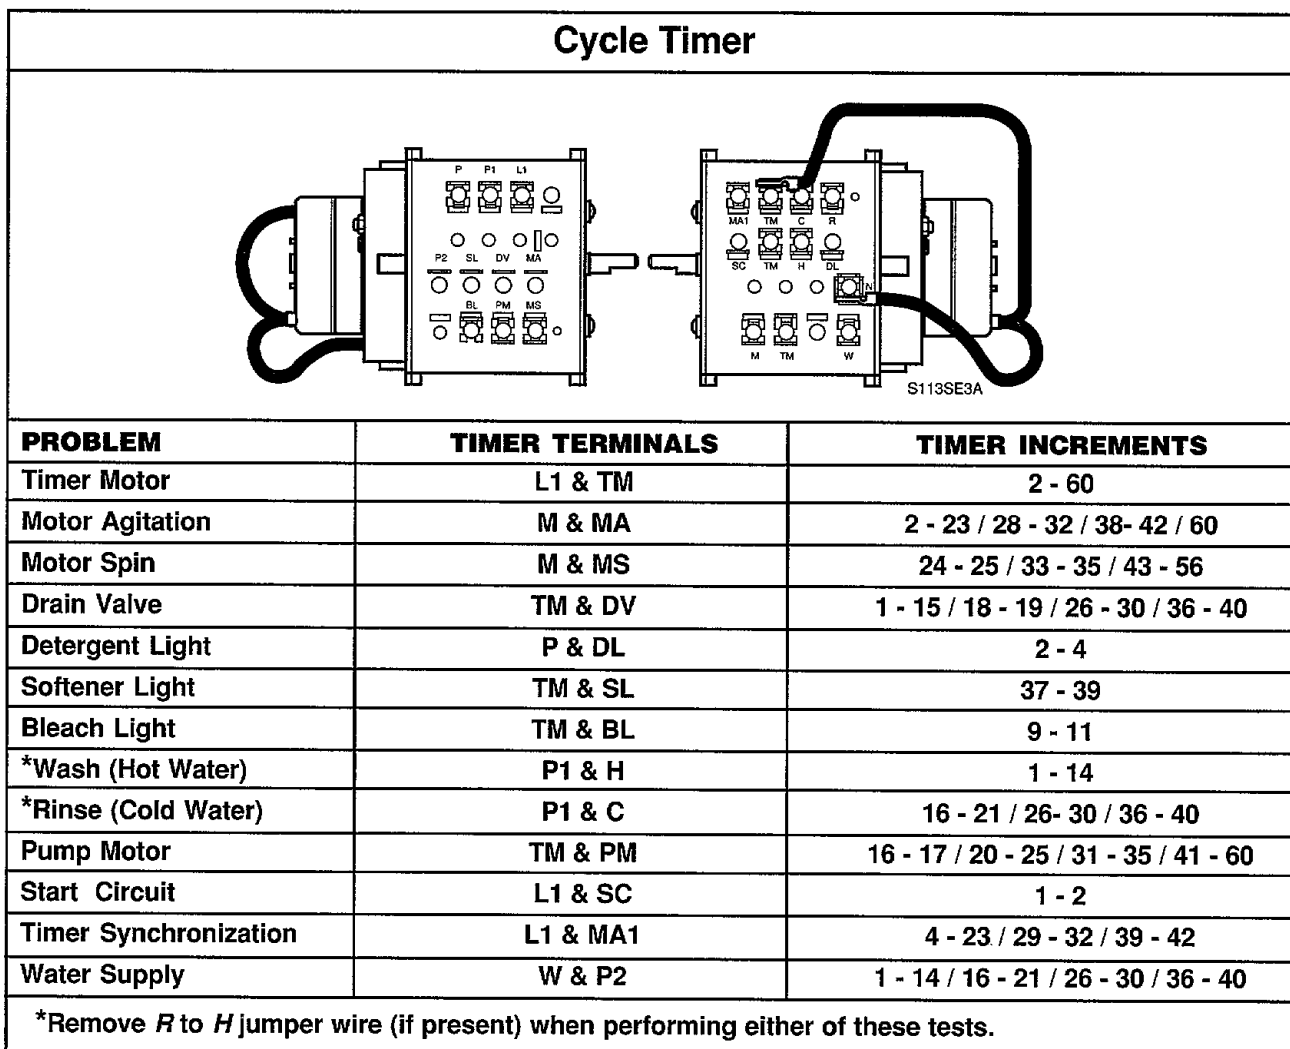

Figure 58
- i. Apply meter probes to timer terminals indicated in *Figure 58* for continuity check.